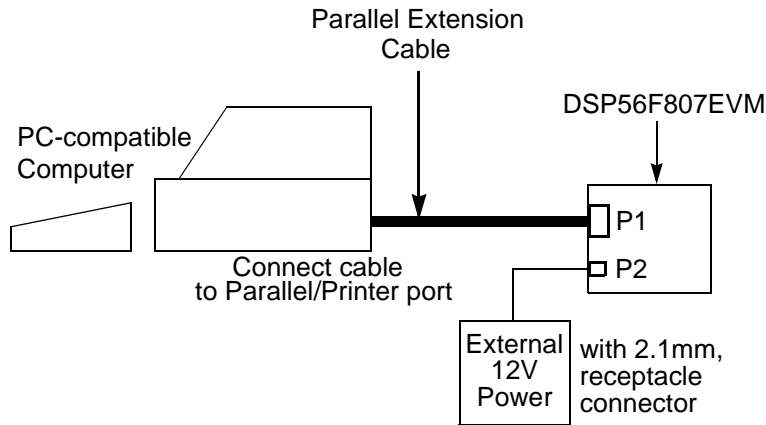

Figure 1-3. Connecting the DSP56F807EVM Cables
An interconnection diagram is shown in Figure 1-3 for connecting the PC and the external 12V DC power supply to the DSP56F807EVM board.
2. Connect the other end of the parallel extension cable to P1, shown in Figure 1-3, on the DSP56F807EVM board. This provides the connection which allows the host computer to control the board.
4. Connect the 2.1mm output power plug from the external power supply into P2, shown in Figure 1-3, on the DSP56F807EVM board.